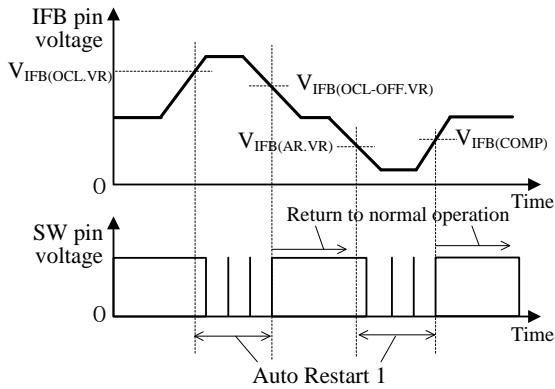
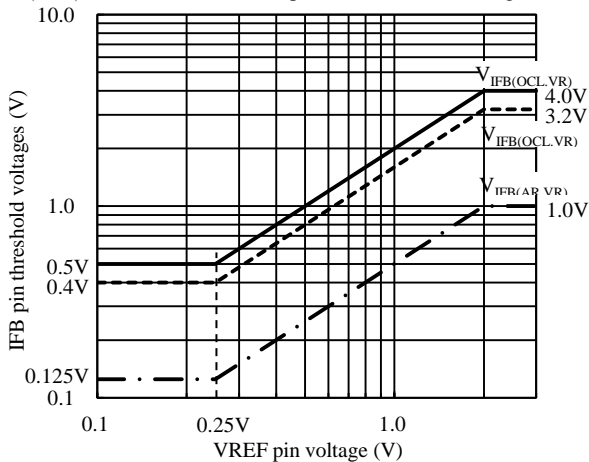

Figure 8-19 IIFB pin threshold voltage and Auto Restart 1 operation
Figure 8-20 VREF pin voltage versus IFB pin threshold voltages
As shown in Figure 8-19, IFB pin has two types of threshold voltage. These threshold voltages depend on the VREF pin voltage, as shown in Figure 8-20.
When the FB pin voltage increase to $V_{IFB(OCL.VR)}$ in Figure 8-20, or more, the operation of the IC switches to Auto Restart 1. When the fault condition is removed and the IFB pin voltage decreases to $V_{IFB(OCL-OFF.VR)}$ in Figure 8-20, or less, the IC returns to normal operation automatically.
When the FB pin voltage decrease to $V_{IFB(AR.VR)}$ in Figure 8-20, or more, the operation of the IC switches to Auto Restart 1. When the fault condition is removed and the IFB pin voltage increases to above $V_{IFB(OMP)}$, the IC returns to normal operation automatically.
- (1) When the IFB pin voltage is increased by the increase of LED current, COMP pin voltage is decreases. In addition, when the COMP pin voltage decreases to the COMP Pin Voltage at Oscillation Stop, $V_{COMP(OFF)} = 0.25\text{ V}$ or less, the IC stops switching operation, and limits the increase of the output current. When IFB pin voltage is decreased by the decrease of LED current, COMP pin voltage increases. When COMP pin voltage becomes $V_{COMP(ON)} = 0.50\text{ V}$ or more, the IC restarts switching operation.
- (2) When IFB pin voltage becomes $V_{IFB(OCL.VR)}$ or more (see Figure 8-20), the IC switches to Auto Restart 1.
- (3) The LED current increases further and when the IFB pin voltage increases to the IFB Pin Overcurrent Protection High Threshold Voltage, $V_{IFB(OCH)} = 4.0\text{ V}$ or more, the IC switches to Auto Restart 2.
When the LED_OUT (+) or the IFB pin is open and the OVP pin voltage increases to the OVP Pin Overvoltage Protection Threshold Voltage, $V_{OVP} = 3.00\text{ V}$, the IC immediately stops switching operation. When the OVP pin voltage decreases to the OVP Pin Overvoltage Protection Release Threshold Voltage, $V_{OVP(OFF)} = 2.75\text{ V}$ or the IFB pin voltage decreases to $V_{IFB(AR.VR)}$ in Figure 8-20, then the IC switches to Auto Restart 1.
When the LED_OUT (-) and the GND are shorted, and the IFB pin voltage decreases to $V_{IFB(AR.VR)}$ in Figure 8-20, then the IC switches to Auto Restart 1.
When the output current detection resistor (R15, R61), is shorted, the IFB pin voltage decreases. When the IFB pin voltage decreases to $V_{IFB(AR.VR)}$ in Figure 8-20, then the IC switches to Auto Restart 1.